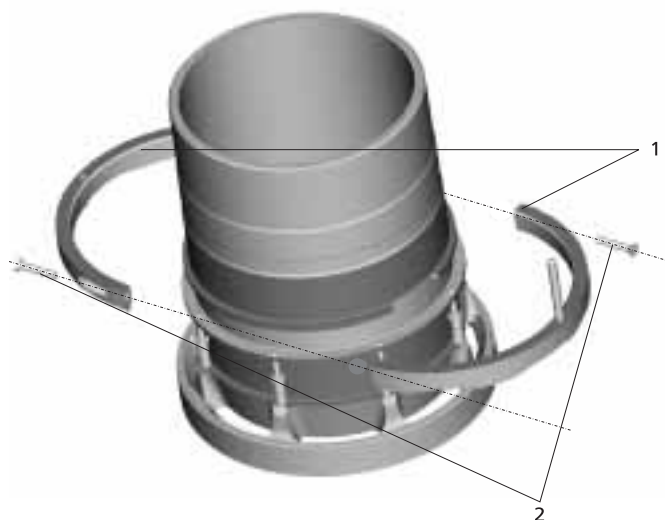

Fig. 3.7-1 Cam ring
- ✓ Mount the 8 push pins (sphere side must face to the cam ring!) (1) through the holes of the lowest guide ring (2) of the cylinder liner, fit the washers (3) and springs (4) and subsequently insert the push pins through the holes of the upper guide ring (5) and the holes of the cylinder liner collar.
- ✓ Place the locking rings (6) on the push pins so the washer will be between the spring and locking ring.
- ✓ Build the cam ring with the cams facing the suction sleeves onto the cylinder liner (refer Fig. 3.7-1). Mount 2 hexagon bolts with the spacers into the cam ring.